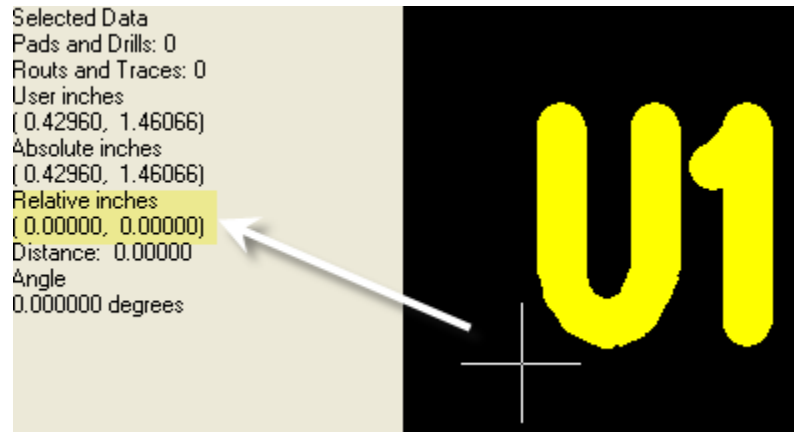

Figure 40
2. Position the cursor + crosshair in the top-right corner of the “U” character and make note of the approximate x and y values – See Figure 40: